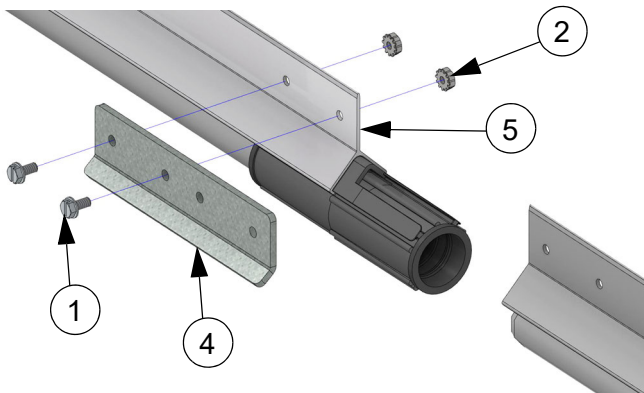

Figure 19. Securing the Water Line together
2. Install a Channel Bracket with #10 hardware to fasten the Support Channels together. (See Figure 19).